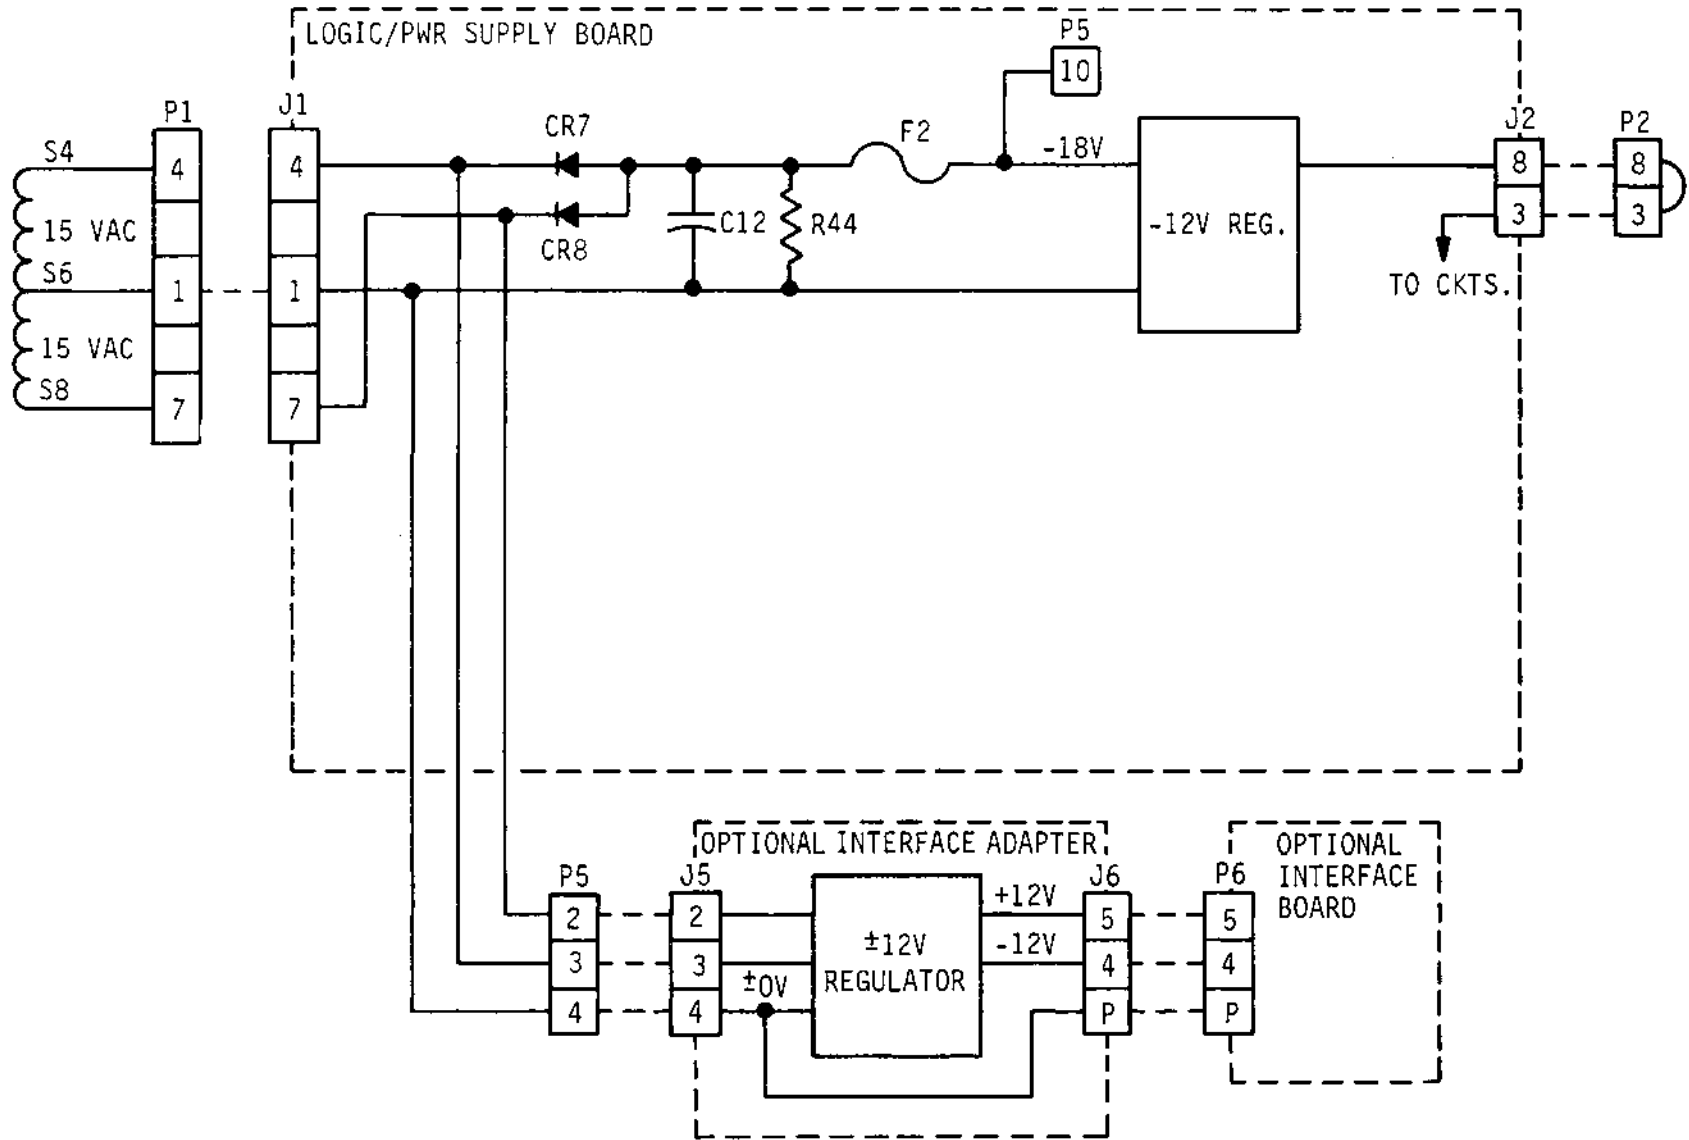

Figure 4-14. -12V REGULATOR INTERCONNECTION DIAGRAM
4.9.2 +12V and -12V REGULATORS (Figure 4-14)